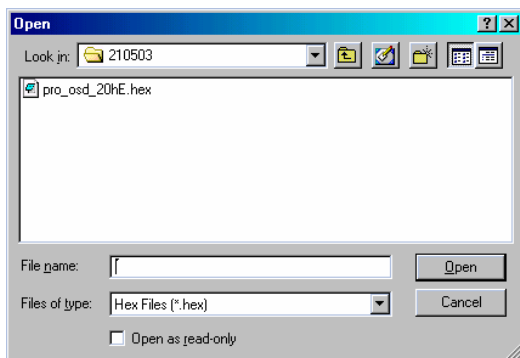

Figure 28 The Open box
3. From the **File** menu, choose **Open**. The **Open** box appears. See Figure 28.